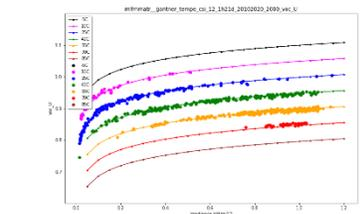

Fig 5
13. Plot MLFM measured, fitted vs. irradiance and temp (Fig 5)